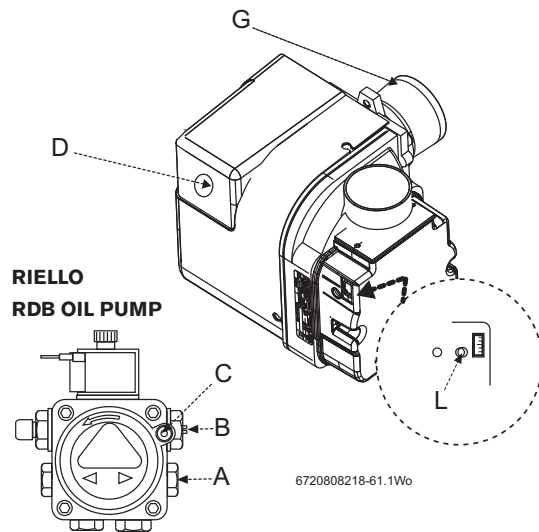

Fig. 67
- ▶ Wait 2 minutes then press the lockout reset button D (see figure 67) to initiate another start sequence.
- ▶ Check for after-spurting from the nozzle, indicated by oil saturation on the combustion head (G figure 67).